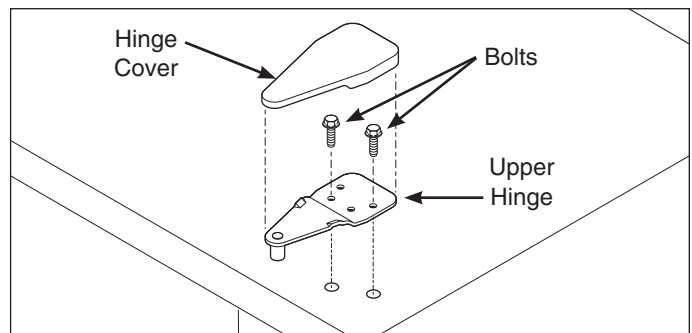

Figure 6-3. Upper Hinge Removal
3. Lift plastic cover off upper hinge assembly. (See Figure 6-3)